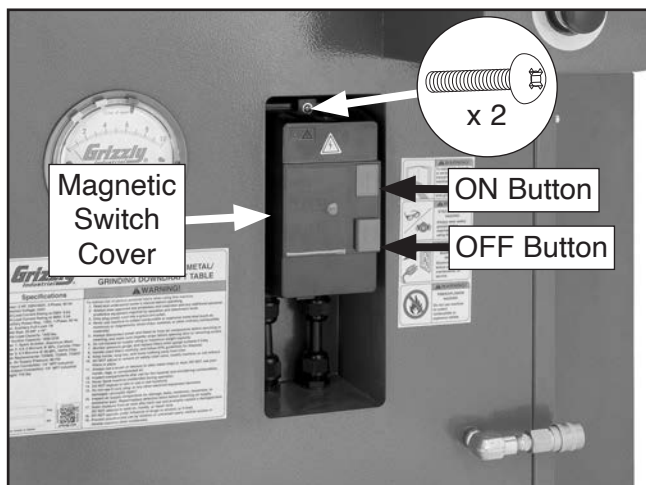

Figure 24. Location of magnetic switch components.
3. Press ON button to start machine (see **Figure 24**).
6. Fully loosen (2) screws shown in **Figure 24** to remove magnetic switch cover.
11. Press OFF button to turn machine **OFF** (see **Figure 24**).